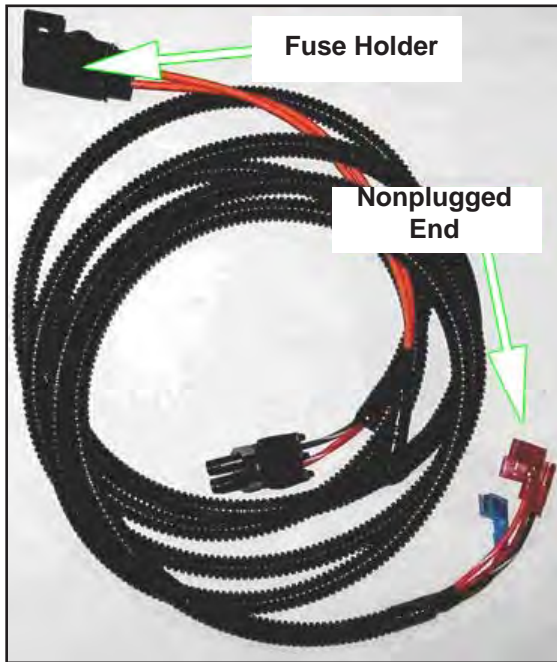
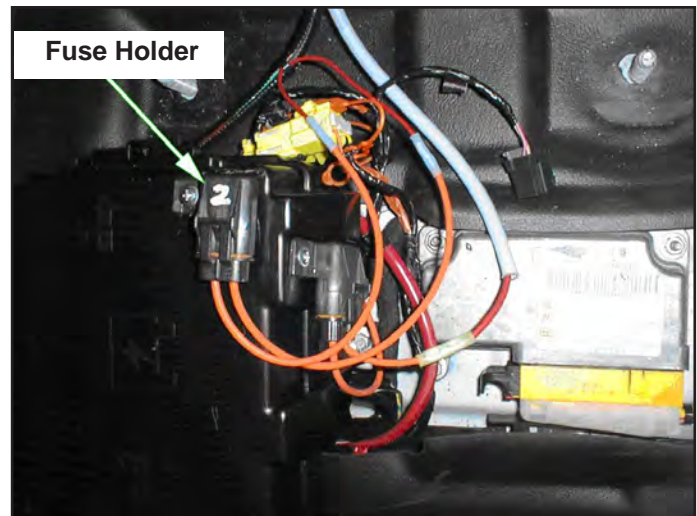

Figure 35. Fuse Holder and Nonplugged End of Throttle Cable
Figure 36. Secure Fuse Holder
5. Route the nonplugged end of the throttle cable from the CDS unit under the Power Pack and toward the steering column (see Figure 35).
7. Secure the fuse holder (containing the 2 Amp fuse) to the lid of the fuse panel with the provided self-tapping screw (refer to Figure 36). Note that the fuse holder is part of the throttle cable (see Figure 35).